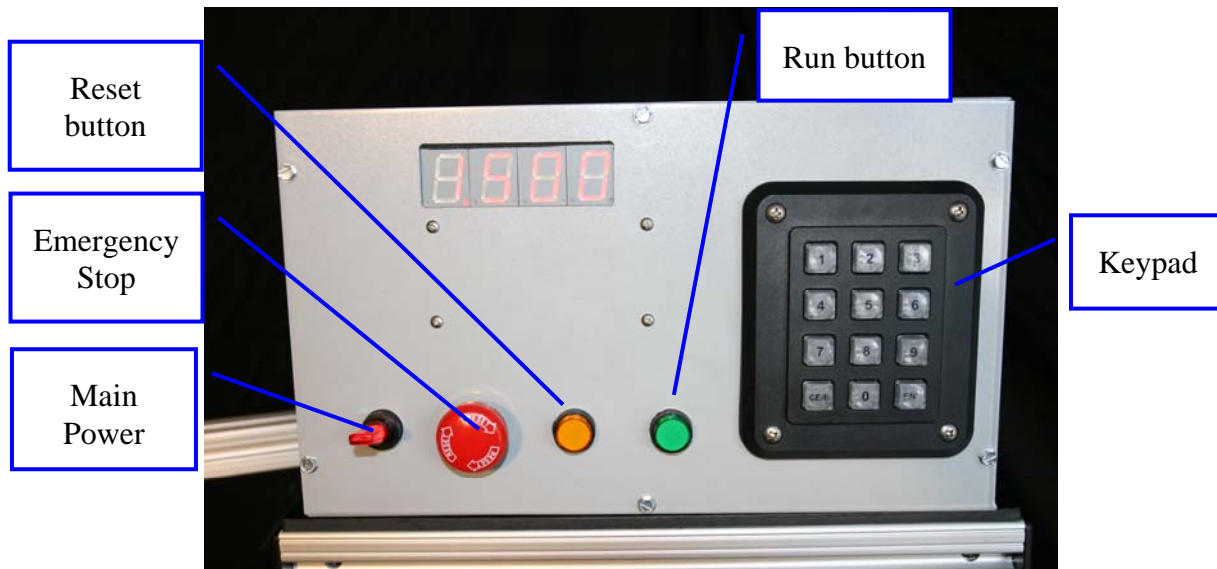

Figure 5. Keypad.
4. Open door(s), Loosen clamp knob and put sample in the clamp. Tighten clamp arm back down on specimen. Enter desired width of sample through keypad if it is not already at the desired spacing, and proceed to *Basic Keypad Operation* (see Figure 5).
In the event of emergency, the primary method of terminating machine operation is pressing the red Emergency Stop mushroom button located on the control panel (see Figure 5). Pushing the switch disconnects power to the motor from the supply line (however, power is still present inside the machine). If the machine is used in a damp/wet location, a GFCI is recommended.